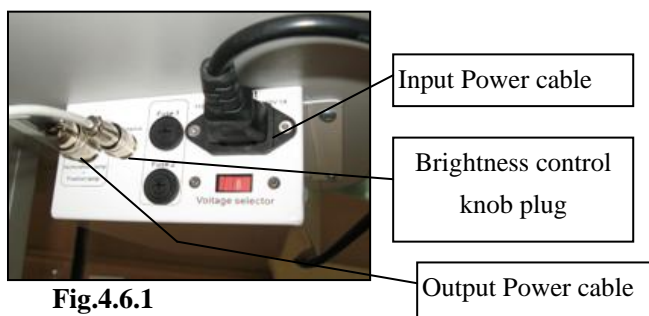

Fig.4.6.1
1. Turn off the main power switch (Fig.3.1.3), remove the power cable from the socket. (Fig.4.6.1 and 4.6.2).